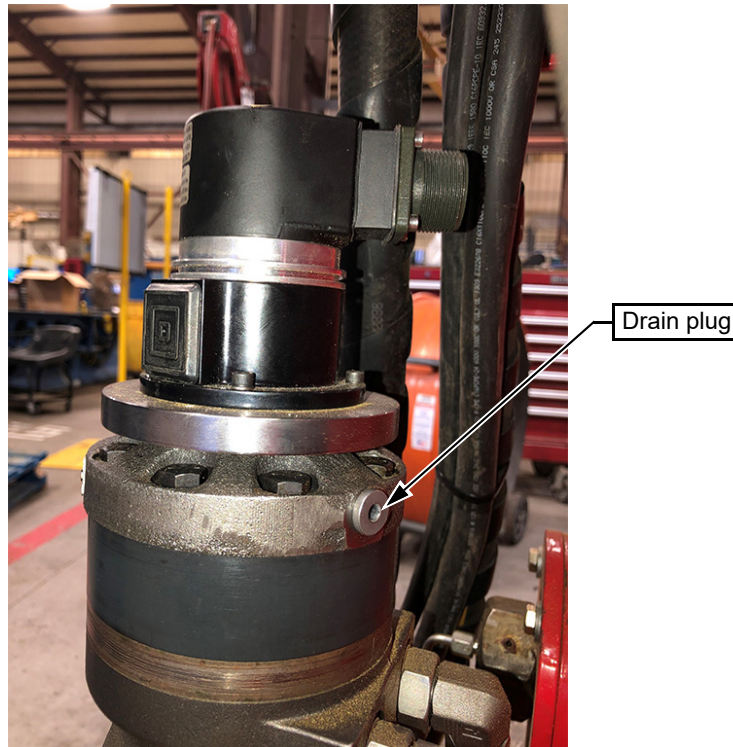

Figure 2: Rotate motor case drain plug
2. Remove rotate motor case drain plug as shown in Figure 2.